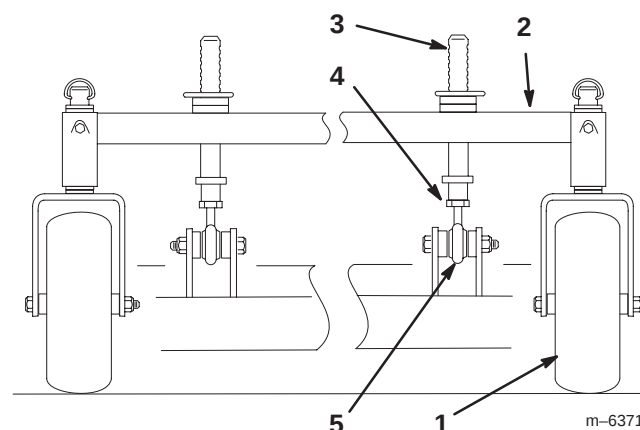

Figure 57
- To change the front-to-rear pitch, the front height-of-cut posts can be adjusted (Fig. 57).
- To raise the front of the deck, loosen jam nut and rotate the front pin clockwise (Fig. 57).
- To lower the front of the deck, loosen jam nut and rotate the front pin counter clockwise (Fig. 57).
- Tighten the jam nuts (Fig. 57).